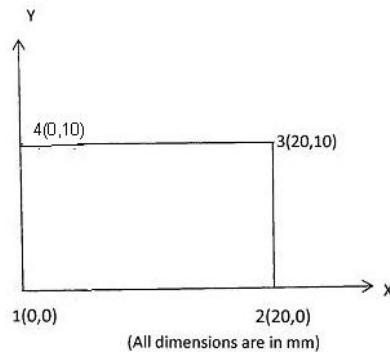

Fig 2.
15. Derive the strain-displacement matrix 'B' for a 4 noded rectangular element as shown in Fig 2.